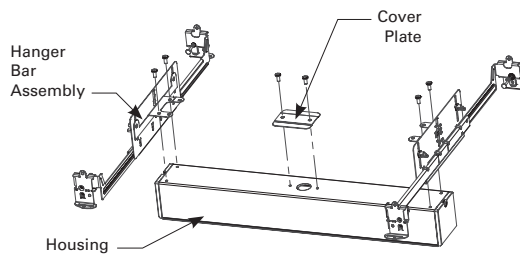

Figure 3
- Install the housing using the hanger bars. The hanger bars can be extended up to 25.5", and are designed to be nailed or screwed to studs, clipped onto the T-grid of a suspended ceiling, or be suspended from wires. If the hanger bars need to be configured perpendicular to the fixture, the hanger bar brackets can be attached at the ends of the fixture using the screws provided (See Figure 3).